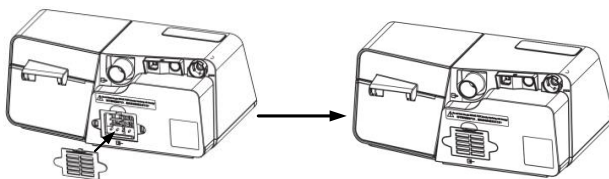

Fig. 18-8
(2) Install the filter cap containing the air filter to the device, as shown in Fig. 18-8.